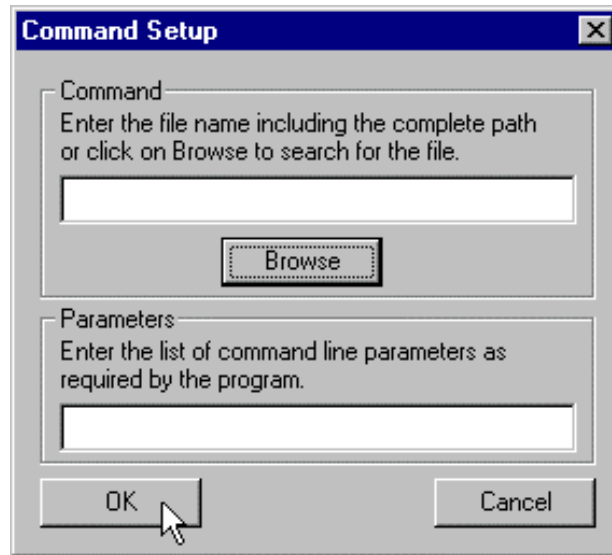

Figure 103 - Command Setup dialog box
5. The **COMMAND SETUP** dialog box is used to specify the desired batch or executable file and any necessary program parameters. Do the following in this dialog box. See Figure 103.